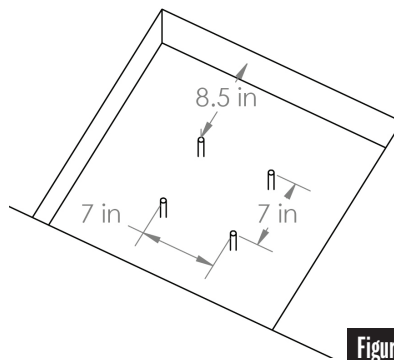

Figure 3
**STEP 4:** Fill the hole half way with concrete and evenly space Rebar (Part C) in the dimensions shown in Figure 3. \*Note: Rebar is added to help reinforce & strengthen the concrete.